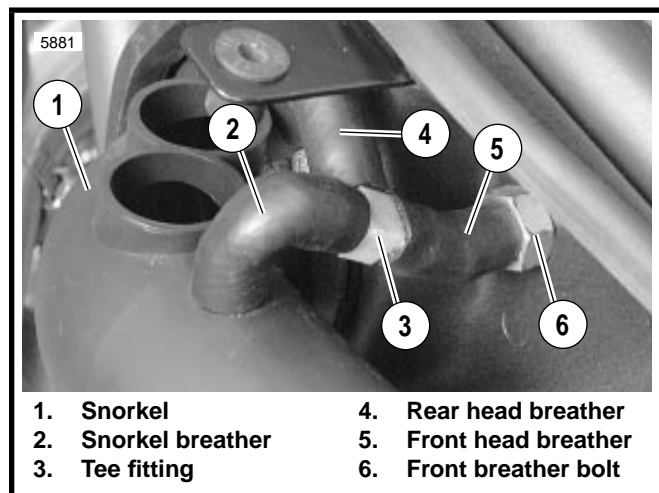
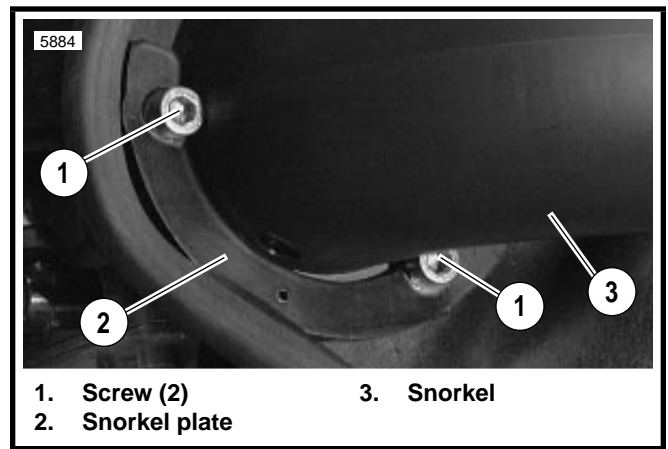
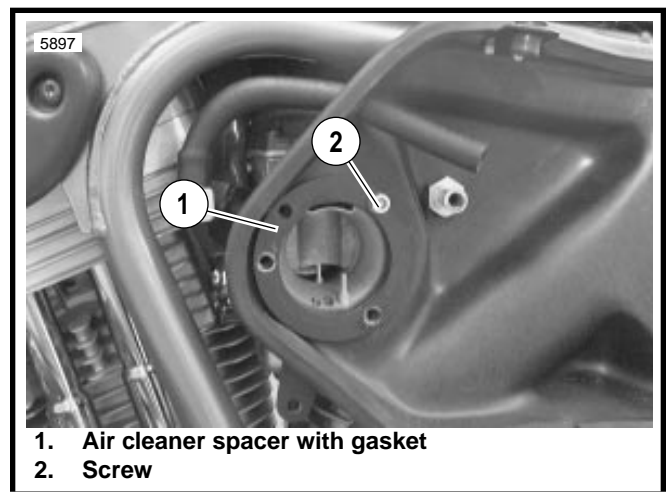

Figure 21. Breather Hoses
Figure 22. Snorkel Ring
Figure 23. Air Cleaner Spacer
4. See Figure 21. Remove backplate hoses.
- a. Detach rear breather hose (4) from tee fitting (3).
- b. Detach snorkel breather hose (2) at snorkel (1).
- c. Remove hoses (2, 5) and tee fitting (3) from front breather bolt (6).
5. See Figure 22. Remove two screws and snorkel plate.
7. See Figure 23. Remove screw with spacer and gasket.
2. See Figure 21. Install breather hoses.
- b. Attach front breather hose (5, with attached tee and snorkel breather hose) to front breather bolt (6).
- c. Connect rear breather hose (4) to tee fitting (3).
3. See Figure 23. Apply LOCTITE THREADLOCKER 242 (blue) to screw. Install ring with screw through backplate. Tighten to 7-9 ft-lbs (9.5-12.2 Nm).
4. See Figure 22. Apply LOCTITE THREADLOCKER 242 (blue) to screws. Fasten snorkel tube with ring and two screws. Tighten to 6-8 ft-lbs (8.1-10.8 Nm).